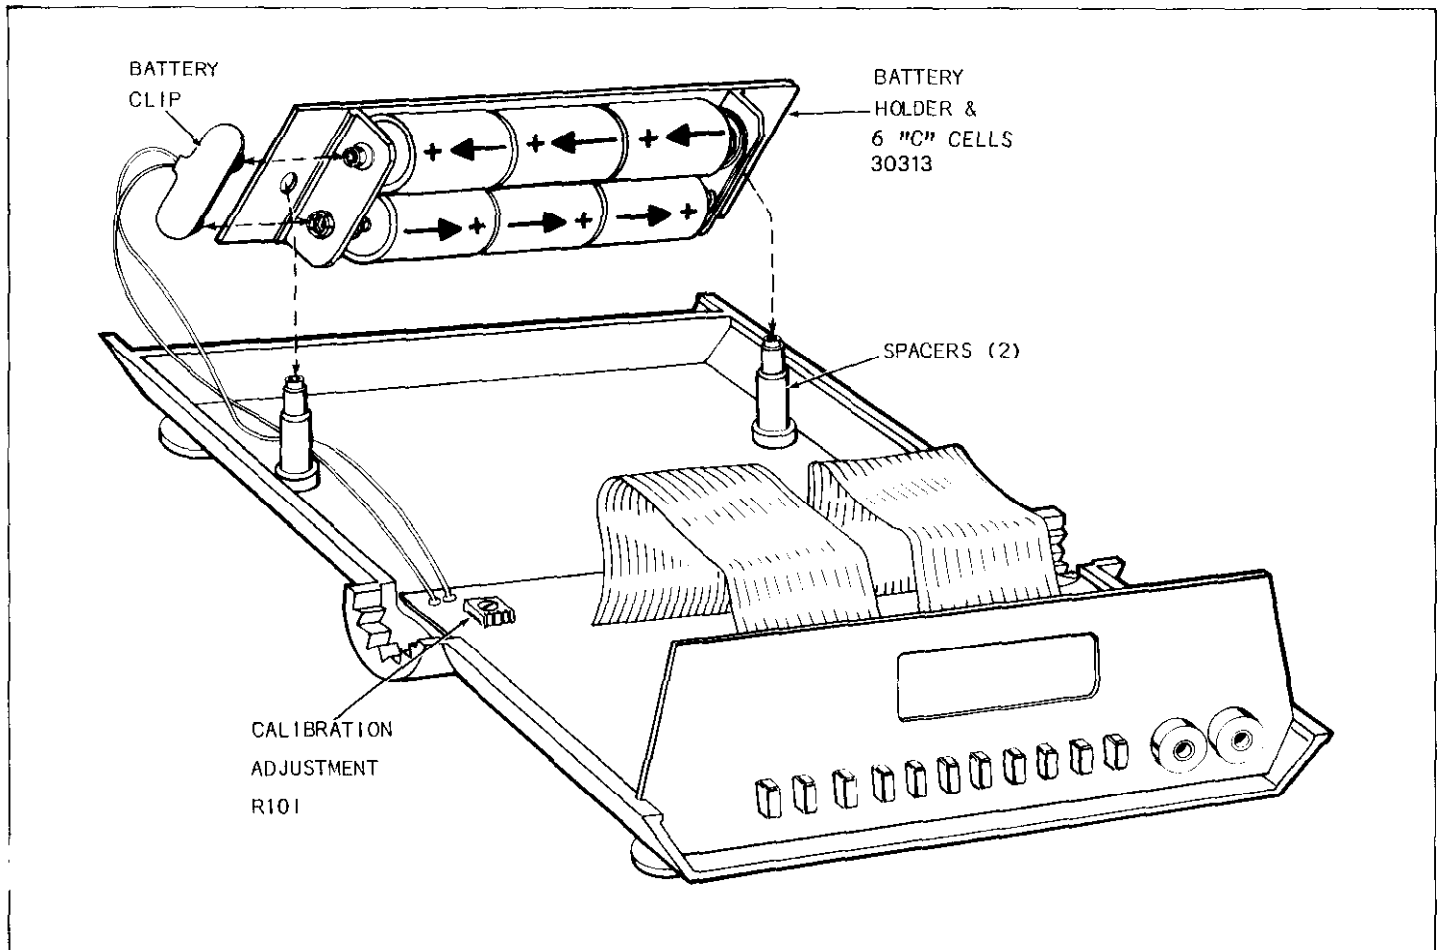

FIGURE 6-1. Calibration Adjustment Location.
- b. Apply -190.0mVDC and adjust R101 (see Figure 6-1) for a reading of -190.0 .